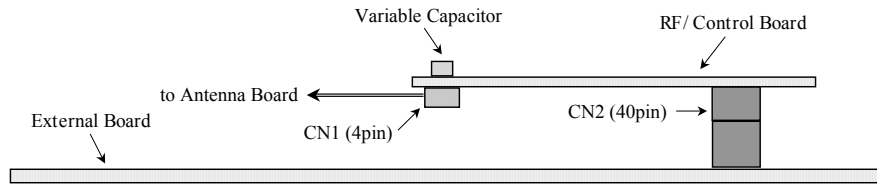

Fig.3 : RF/Control Board Attached to External Board
- The RF/Control board can be attached to external board by the interface connector CN2 as is shown in Fig.3.